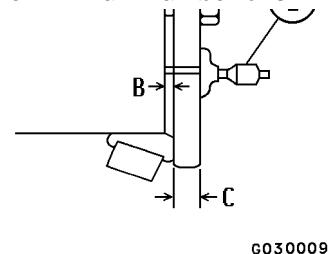

FIGURE 3-8. PRELOAD ADJUSTMENT
1. Install retainer (1, Figure 3-8) with 3 mounting capscrews without installing any shims. Rotate hub 20-30 times and tighten capscrews uniformly to **13.0 ± 0.5 kg.m (94 ± 4 ft. lbs.)** torque.
2. Measure dimension (A) from retainer to tip surface of axle with depth micrometer (2).